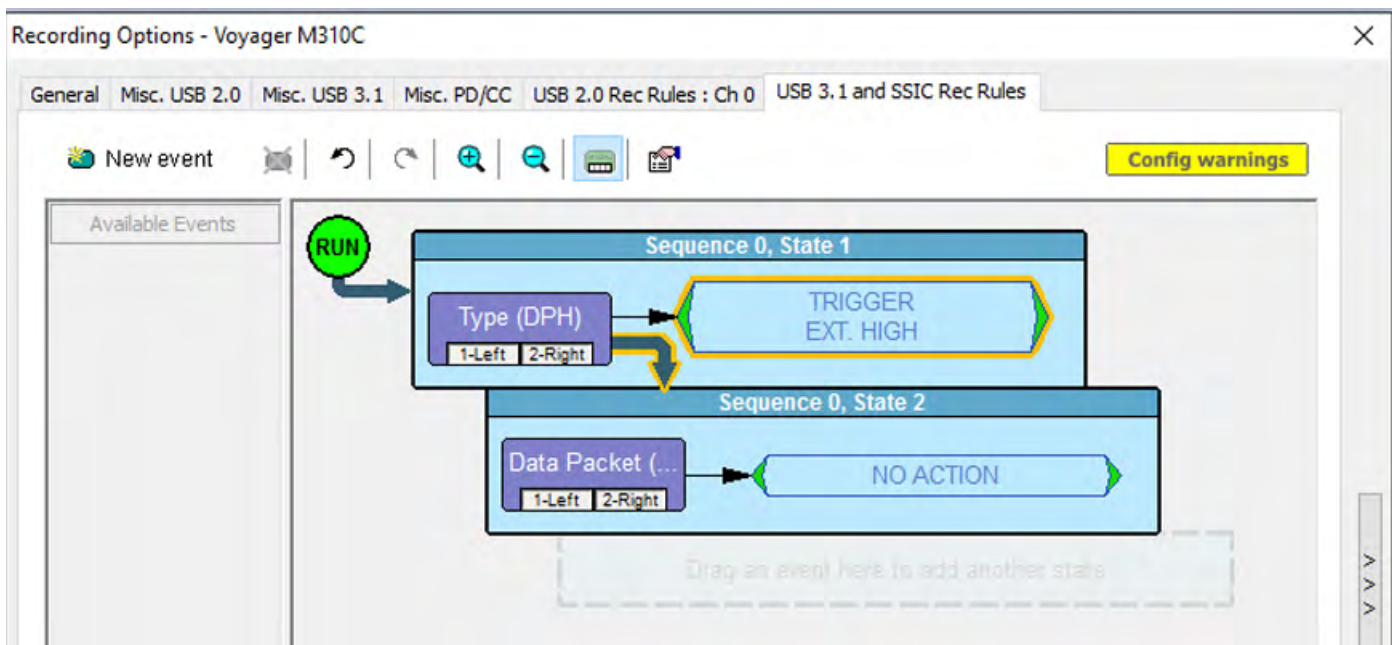

Figure 10.32: Advancing the Sequence.
**Advance the Sequence:** Creates an event sequence consisting of the event you clicked on and an event in a successive state of the sequence. A thick arrow appears from the selected event and points downward. See Figure 10.32.